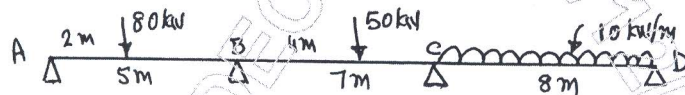

Fig.Q8
- 8 Analyze the continuous beam shown in Fig.Q8 by using three moment equation and draw BMD and SFD.